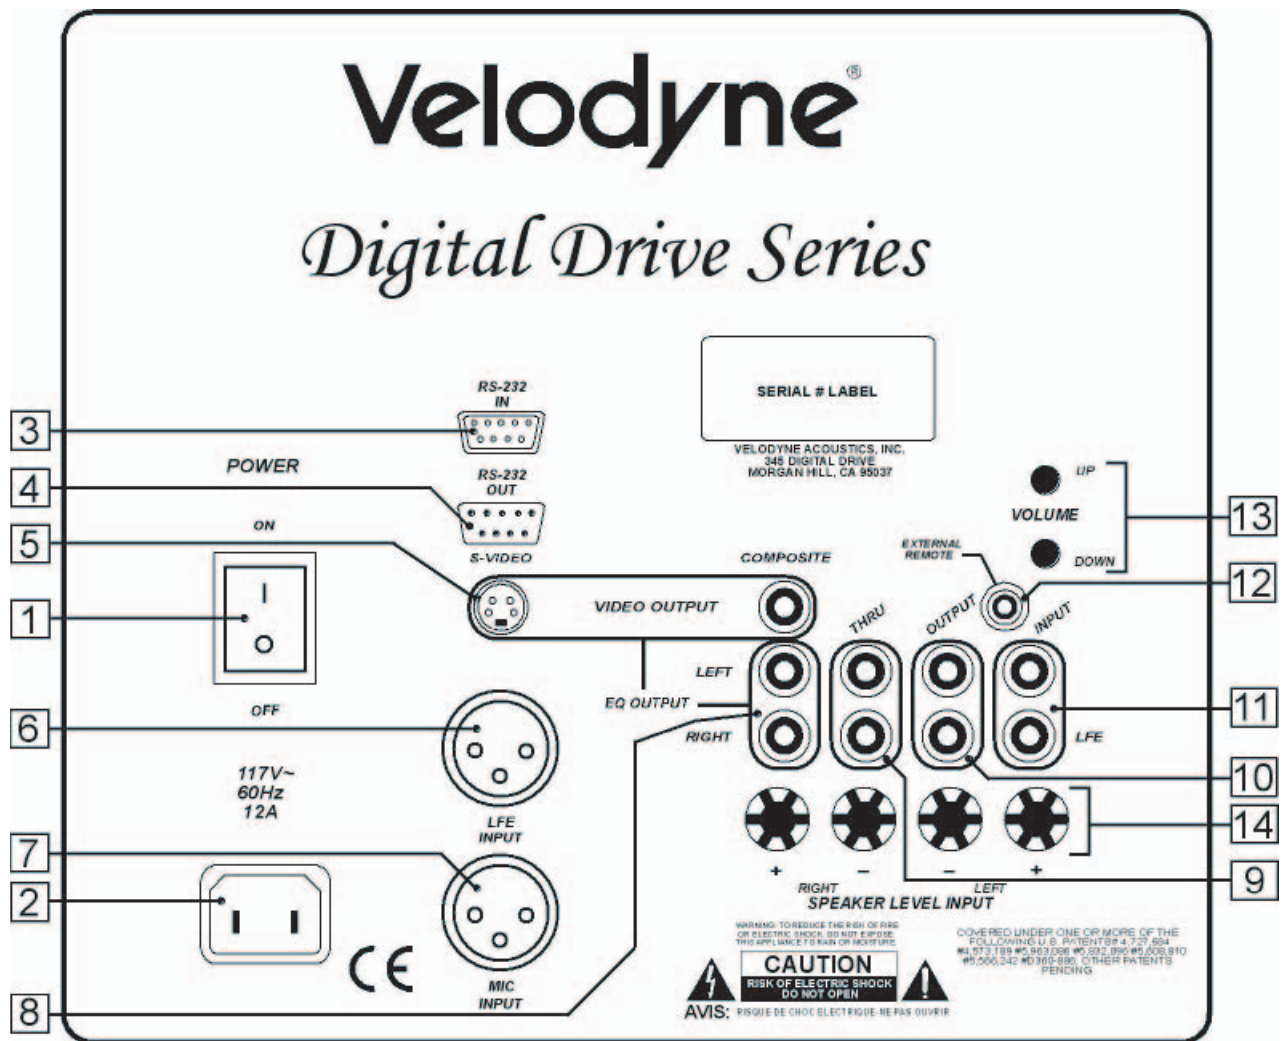

Figure 2: Digital Drive Rear Panel Connections
The Velodyne Digital Drive subwoofer is set up, configured, and adjusted by the controls, inputs, and connections located on the rear panel of the unit. Figure 2 shows the location of each of these important operational interfaces. Brief descriptions of each interface follow.
- a. LFE INPUT (RCA, the RED jack at location 11 on Figure 2) – This is the most common input cable connection. Make a connection between this input and the LFE output or the subwoofer output of your receiver or processor; OR
- b. LFE INPUT (XLR, location 6 on Figure 2) – Make a connection between this input and the balanced LFE outputs of your receiver or processor; OR
- c. INPUT, LEFT and RIGHT (location 11 on Figure 2) – Make a connection between these inputs and the stereo outputs of your receiver or processor; OR
- d. SPEAKER-LEVEL INPUT (location 14 on Figure 2) – Make a connection between these inputs and the left and right speaker connections on your receiver or processor. Make this connection by either inserting speaker wire into the correct binding post terminals or by removing the banana plug jack caps and inserting banana plug wire into the jacks.
- Referring to Figure 2, Items 5 and 8, connect the audio/video cable between your subwoofer (EQ OUTPUT VIDEO/LEFT/RIGHT yellow, white, and red respectively) and your electronics (receiver, processor, TV, etc.). Insert the color-coded cable plugs into the correct EQ OUTPUT receptacle – the yellow plug into the VIDEO jack, the white plug into the LEFT jack, and the red plug into the RIGHT jack. The opposite ends of this cable should be connected to your receiver/processor. The yellow VIDEO cable goes to an available composite video input (e.g. aux), and the white/red AUDIO (L&R) cables go to a corresponding audio input. Consult your receiver/processor and/or TV owner's manual for more information.
- Insert the XLR microphone cable's 3-pin male plug into the MIC INPUT jack (location 7 on Figure 2) on the back panel of the subwoofer. For DD-15 and DD-18 units, a microphone jack is also located on the front of the unit for convenience.